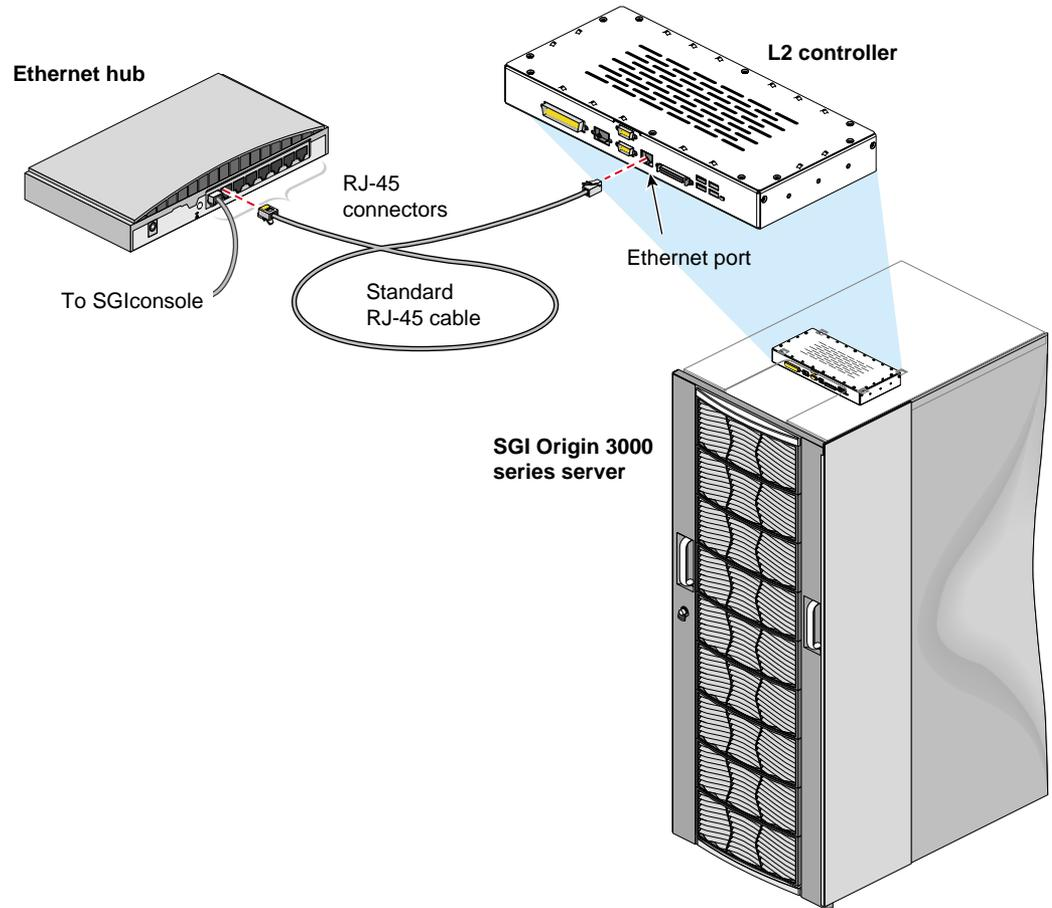

Figure 2-35 Connecting the Ethernet Hub to the Origin 3000 Series L2 Controller
5. Connect one end of the second RJ-45 to RJ-45 standard Ethernet cable to one of the RJ-45 jacks on the Ethernet hub. Connect the other end to the L2 controller's RJ-45 Ethernet jack. See Figure 2-35.